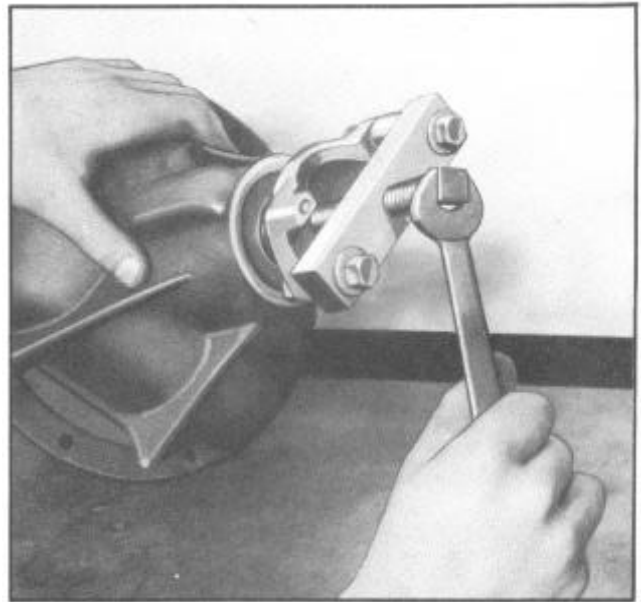

Figure 8--Removing Pinion Shaft Companion Flange
30. Remove cotter pin from pinion shaft nut (8) and remove nut also washer (9).
31. Remove pinion shaft companion flange (26) using companion flange puller tool J 456, as shown in Figure 8. Pinion (6) Figure 1, bearing spacer (23) and shims can now be removed from inside carrier.